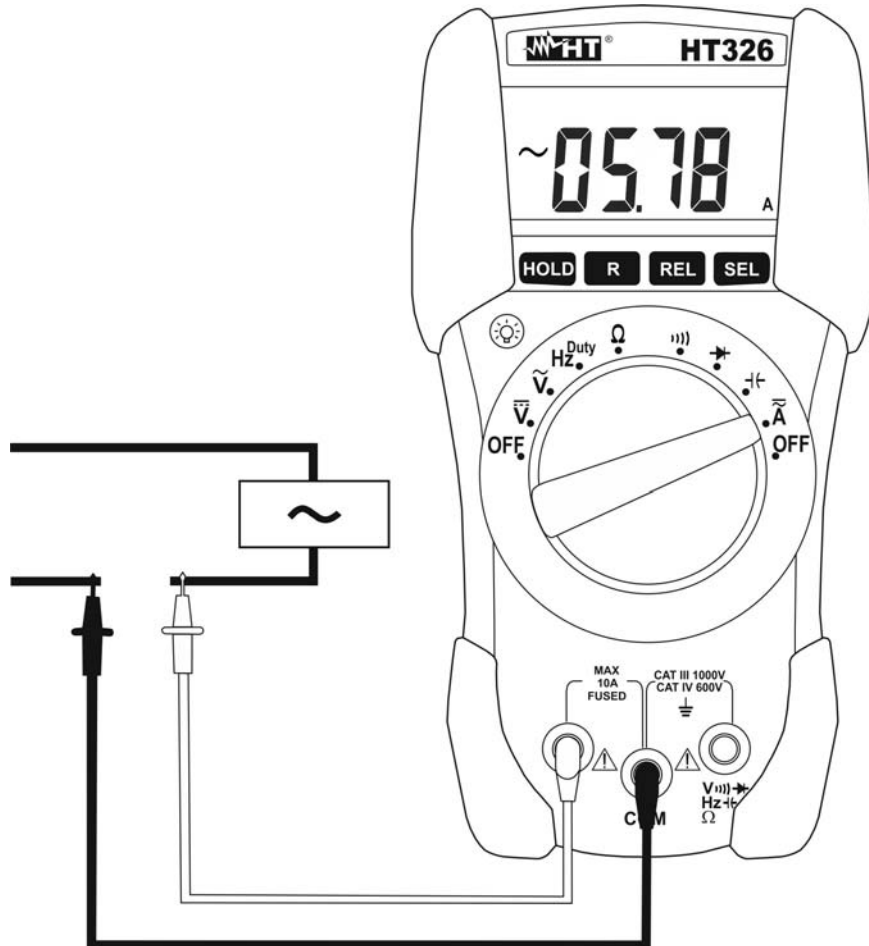

Fig. 5: Using the instrument for AC Current measurement
5. Connect the red and the black plugs in series with the circuit whose current is to be measured respecting the polarities (see Fig. 5)